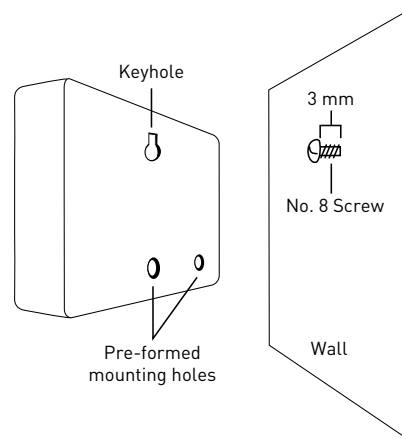

Figure 2: Hang timer on screw using keyhole
- Slip the HRC 100 C over protruding screw (using keyhole slot in back). See Figure 2
- Drive a No. 8 screw through one of the two pre-formed holes located in lower back cabinet. See Figure 2